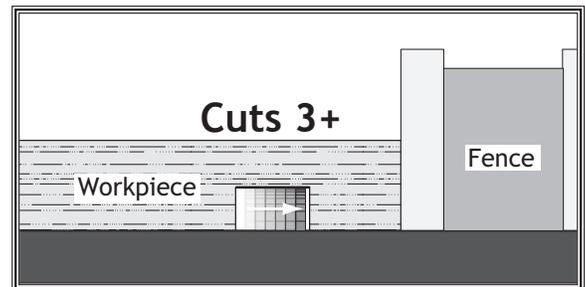

Figure 70. Additional single-blade dado cuts.
8. Make additional cuts (see Figure 70) in center of dado to clear out necessary material. Dado is complete when channel is completely cleared out.